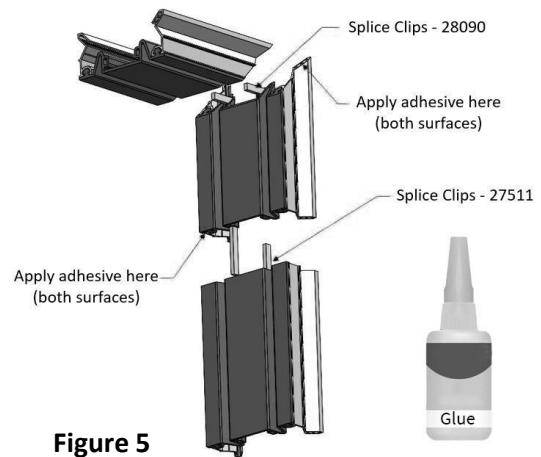

Figure 5
- Place the elastomeric face seal into position and push the seal bulbs into extrusion channels as shown. Make sure the bulbs are seated all the way into the channel. Do not stretch the face seal lengthwise during installation. Use soapy water mix in channels to if needed to assist the face seal into the channel. **See Figure 5**.
Insert splice clips (if required) (part # 28090) halfway into the alignment holes on one of the seals. Apply glue, cyanoacrylate or similar adhesive (by others) to both seal ends and follow instructions by the adhesive manufacturer. Almost immediately after adhesive is applied, insert the protruding ends of the splice clips into the ends of the two seals together, applying uniform pressure for at least two minutes while maintaining contact between both sides. The splice clip is not necessary, but is recommended, especially on larger sized seals. **See Figure 5**